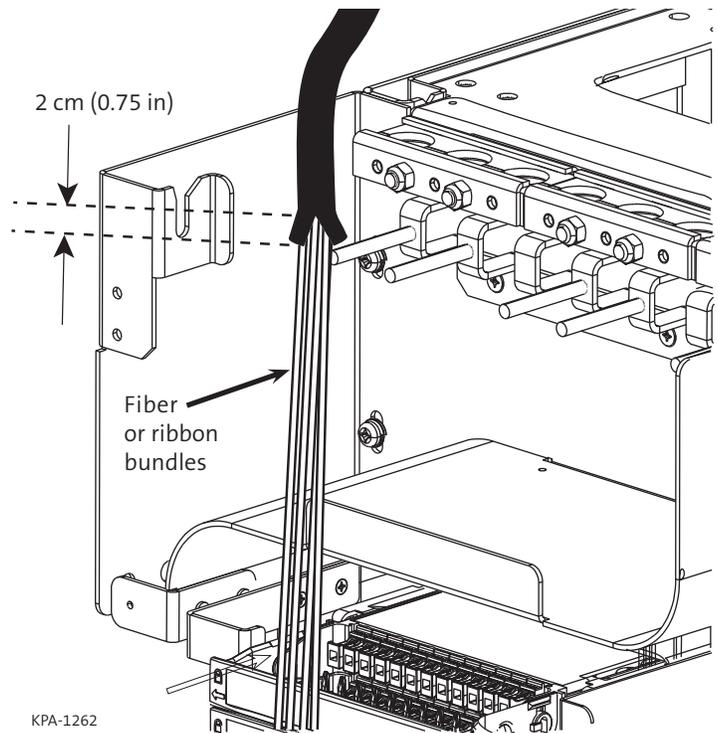

Figure 14
Step 6: Slit sheath 2 cm (0.75 inches) as shown in Figure 14.